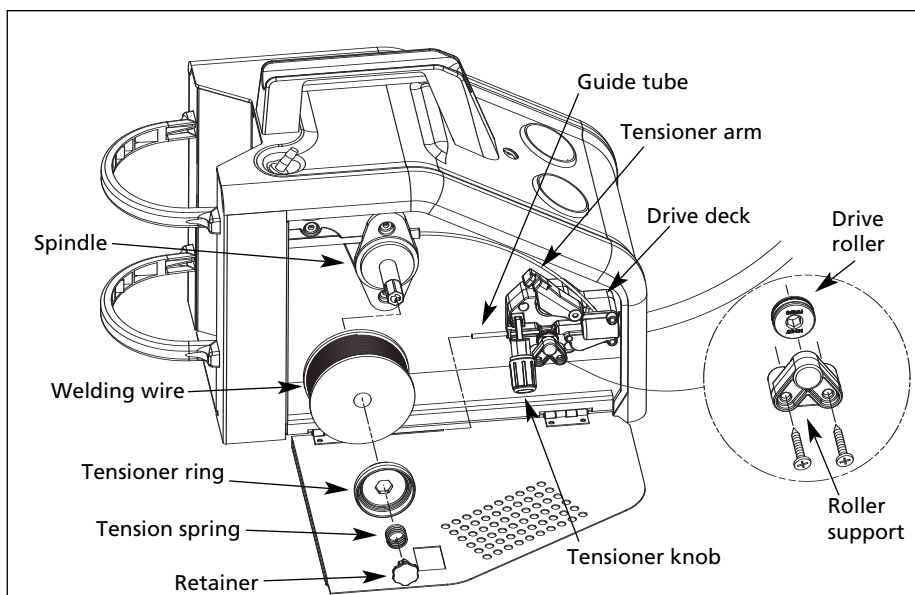

Figure 3 - Weld Wire Routing
- Diameter of welding wire matches groove in drive roller on wire feed mechanism (See Fig. 3). The drive roller is marked with metric sizes: .6mm = .024", .8 - .9mm = .030 - .035"